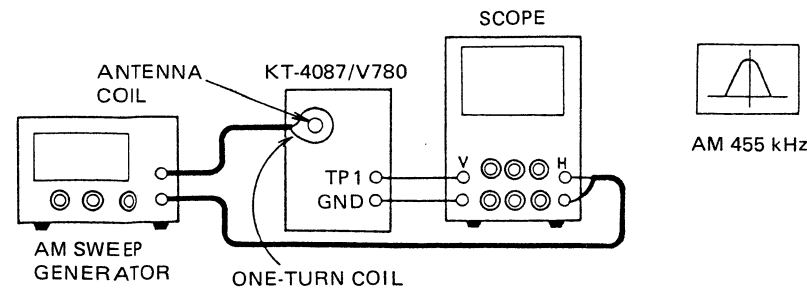

Figure 8
2. First, do the AM-IF Alignment (AM ALIGNMENT CHART-Step 1), referring to Figure 8 .